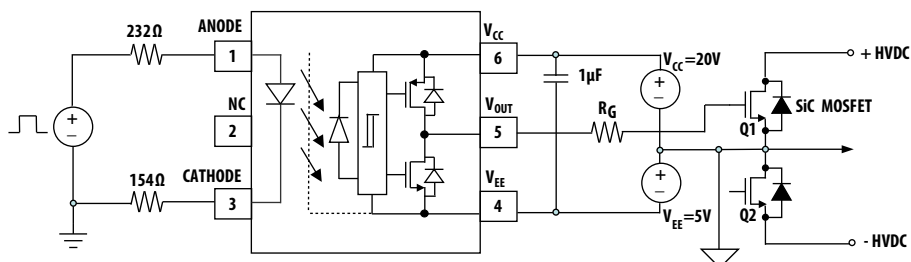

Figure 20. Recommended application circuit with split resistors LED drive.
The recommended application circuit shown in Figure 20 illustrates a typical gate drive implementation using the ACPL-P349/W349.
Step 1: Calculate R_G minimum from the I_{OL} peak specification. The SiC/GaN MOSFET and R_G in Figure 20 can be analyzed as a simple RC circuit with a voltage supplied by ACPL-P349/W349.
The ACPL-P349/W349 includes a Propagation Delay Difference (PDD) specification intended to help designers minimize “dead time” in their power inverter designs. Dead time is the time period during which both the high and low side power transistors (Q1 and Q2 in Figure 20) are off. Any overlap in Q1 and Q2 conduction will result in large currents flowing through the power devices between the high and low voltage motor rails.